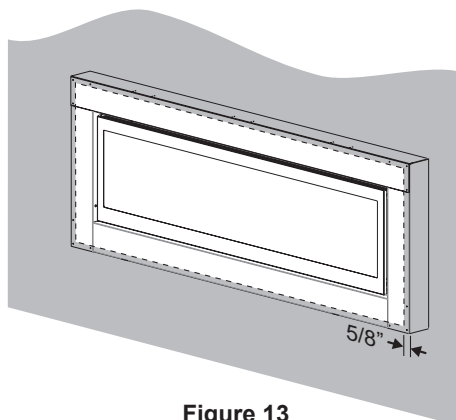

Figure 13
- 3a. Figure 13 shows minimum recommended coverage over the face of the outdoor kit. This covers rivets exposed on the outside of the fireplace. The non-combustible facing may be placed to the opening. See Figure 13.